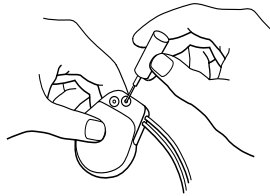
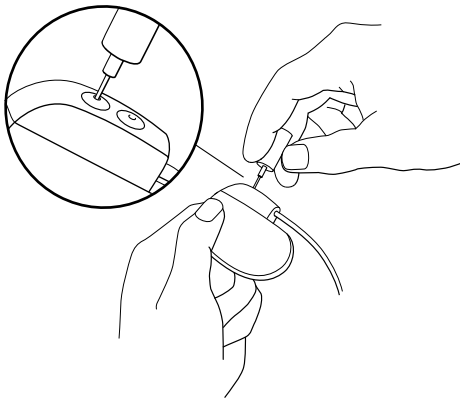

Figure 3.
Figure 4.
3. To secure the lead, tighten the setscrew(s) by turning clockwise as indicated in Figure 3 and Figure 4. When using the larger, white-handled torque wrench, complete tightening will be indicated by a clicking sound. When using the smaller, white-handled hex wrench, tighten the setscrew(s) clockwise, until you feel resistance. You should be able to turn the setscrews at least 1/2 turn before resistance is felt. If the setscrew turns more than one